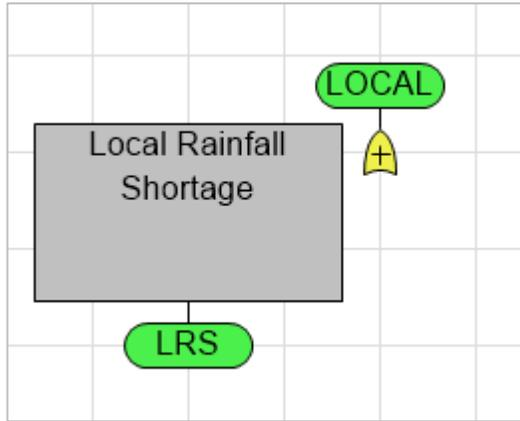

Figure 3-7. Local Rainfall Shortage Binary Node with Annotation Box
- ⇒ Press Esc or click in white space to de-select the newly created node. Your Fault Tree should look like Figure 3-7